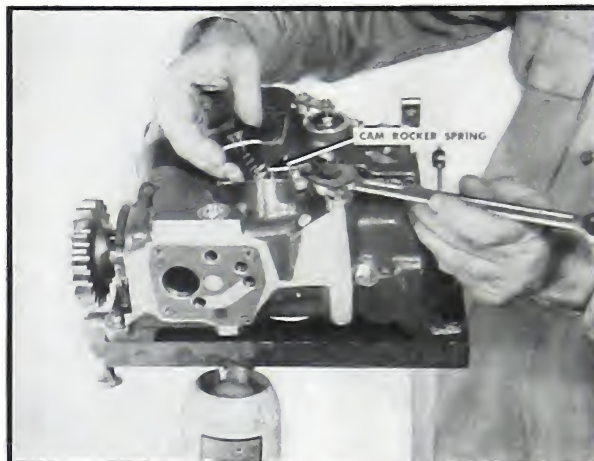

Fig. 5-190. Remove cam rocker spring
Unscrew the cam rocker spring retainer cap and remove cap, spring and gasket. Fig. 5-190.
1. Unscrew the cam rocker lever spring retainer cap and remove cap, spring and washer. Fig. 5-190.